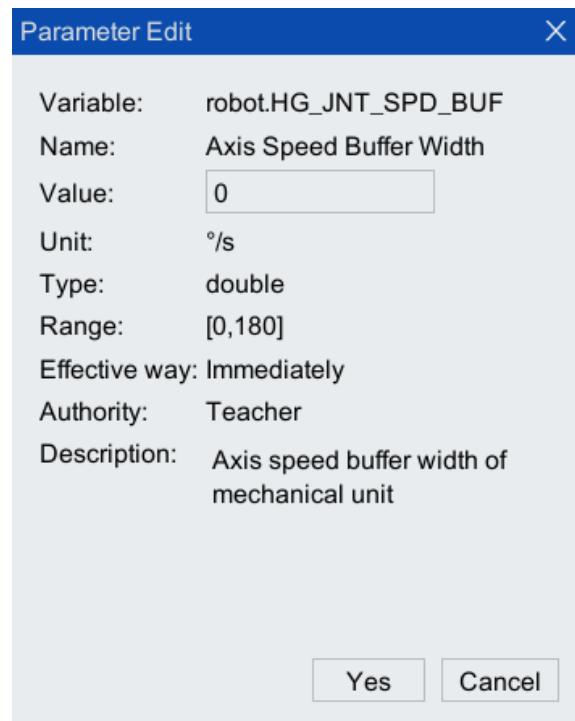

Figure 5-21 Axis speed buffer width configuration interface
Step4. In the pop-up [Parameter Edit] interface (as shown in Figure 5-21), configure the [Value]. The width of the axis speed buffer should usually be set to a value greater than 20 °/s. If the set additional resistance moment is not felt, the width of the axis speed buffer should be further increased. Parameter description is shown in Table 5-6.